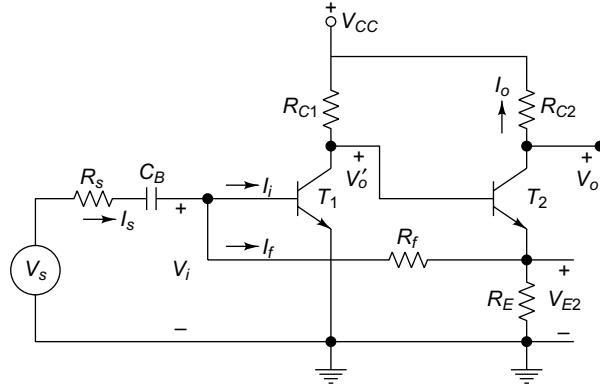

Fig. 2.43 Emitter to base feedback amplifier circuit
2.19 Figure 2.43 shows the transistor feedback amplifier circuit and it has the following parameters:
In Fig. 2.43, transistors T_1 and T_2 are connected in cascade. The feedback resistance R_f is connected between the emitter of T_2 and base of T_1 to provide a feedback path. The output voltage of transistor T_1 is the output voltage of first stage amplifier V'_o and it is 180° out of phase from the input voltage V_i . The voltage across R_E is V_{E2} . The output voltage V_o is connected in series with the voltage V_{E2} . The topology of the feedback is current shunt or series shunt feedback.